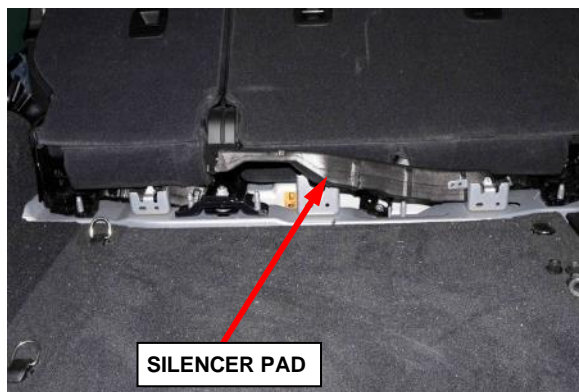

Figure 22 – Silencer Pad
- 35. Remove silencer pad (Figure 22).
53. Install the silencer pad (Figure 22).